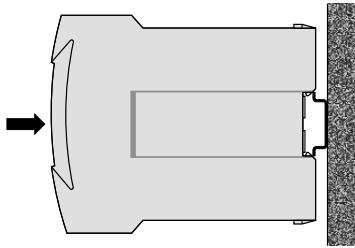

Fig. 5. Mounting on top-hat rail 35 × 15 or 35 × 7,5 mm.
Simply clip the device onto the top-hat rail (EN 50 022) (see Fig. 5).
While pressing the latch (4) in the base of the device (Fig. 5, left) pull out the transmitter securing brackets (1). To return the brackets to their original positions, the latch (5) in the base of the device has to be depressed before applying pressure to the securing brackets (1) (see Fig. 5, right).